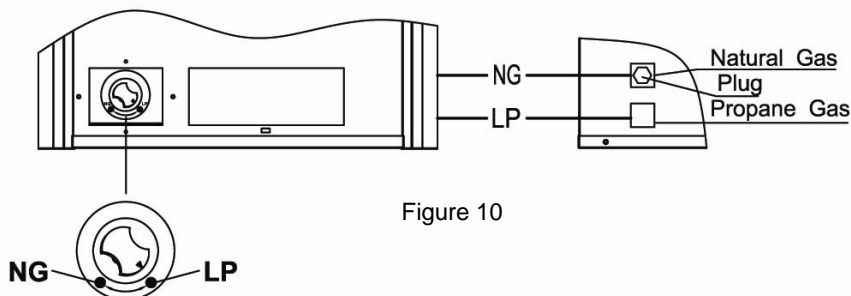

Figure 10
2. For propane gas, press in knob using a flat screwdriver with a blade the thickness of a quarter and turn knob counterclockwise  until the knob locks into the LP position (see figure 10). Selection valve must be locked into the LP position.